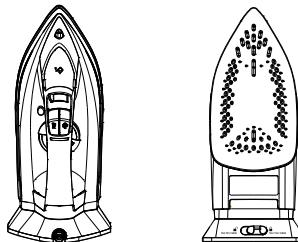

Figure 2
2. Move Lock/Unlock switch to the locked position  Lift the iron by the handle to ensure that it is securely locked onto the base (Figure 2).